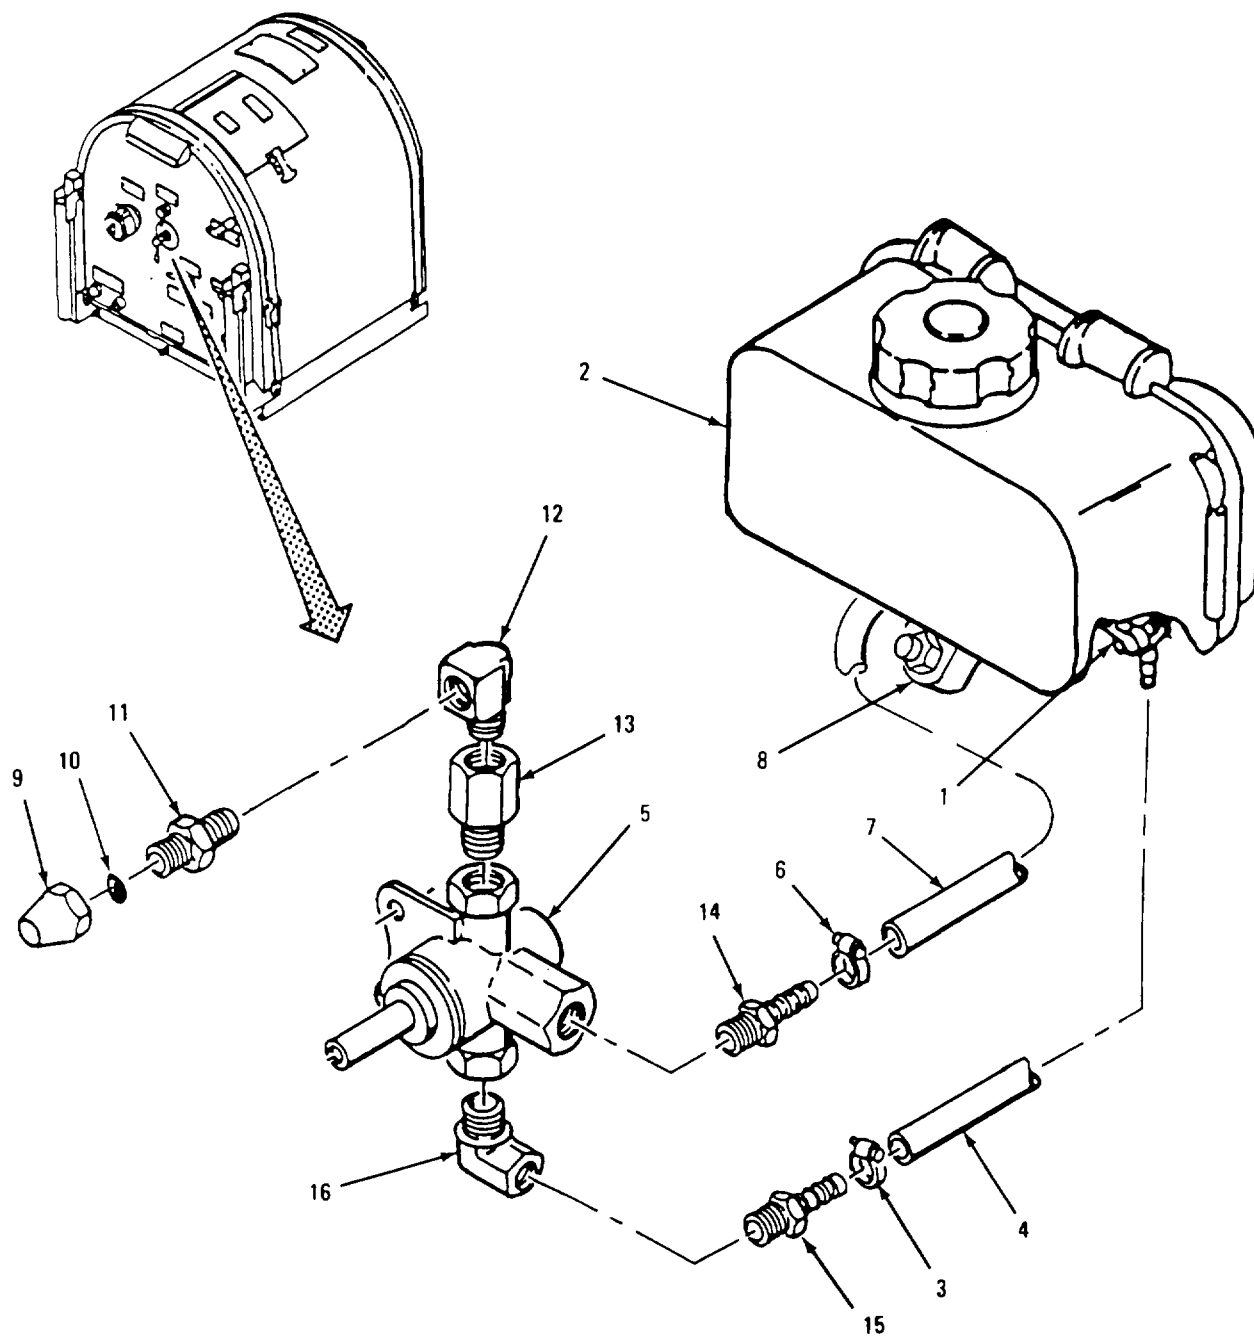

Figure 4-15. Fuel Selector Valve
f. Fuel Selector Valve Removal. (Refer to Figure 4-15)
- (1) Close fuel cock (1) on fuel tank assembly (2).
- (2) Loosen hose clamp (3) securing fuel line (4) from fuel tank (2) at fuel selector valve assembly (5).
- (3) Loosen hose clamp (6) securing fuel line (7) to injection pump (8) at fuel selector valve assembly (5).
- (4) Remove fuel selector valve assembly (5) from fuel tank lines (4) and fuel injector pump line (6).
- (5) Remove fuel tank assembly (2). (see para. 4.26)
- (6) Remove cap (9), gasket (10), adapter (11), elbow (12), and adapter (13) from fuel selector valve assembly (5).
- (7) Remove two hose barb adapters (14 and 15) and elbow (16) from fuel selector valve assembly (5).